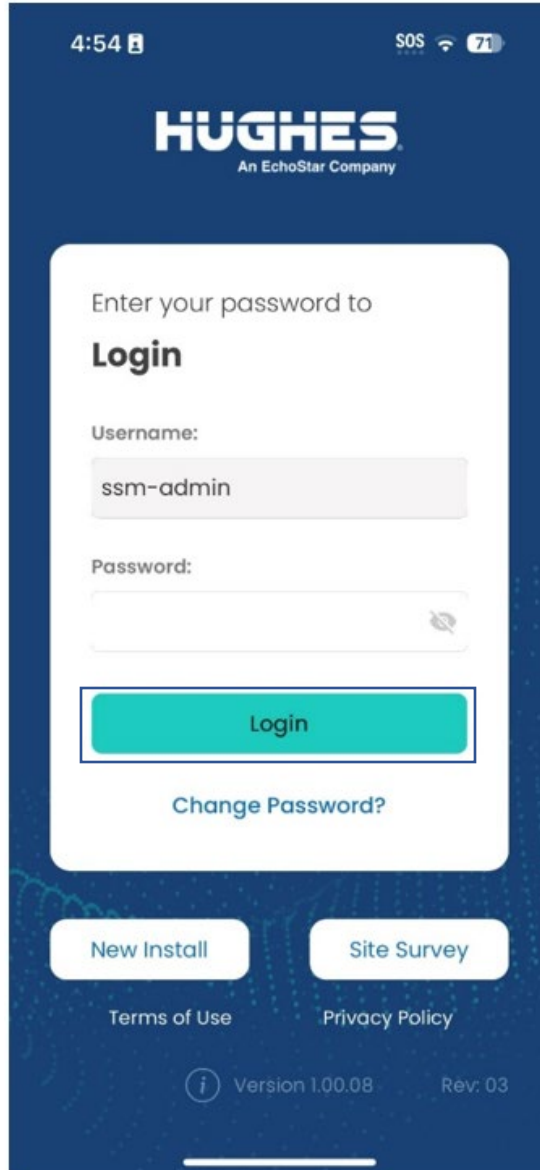

Figure 131: Login screen
2. Once this is completed, launch the app on the smart phone, enter password and click on the **Login** button shown in Figure 131.